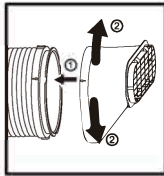

Fig. 2
2. Align the arrows on the hose outlet and the hose. Attach the hose outlet connector by turning it either clockwise or counterclockwise. (fig. 2)